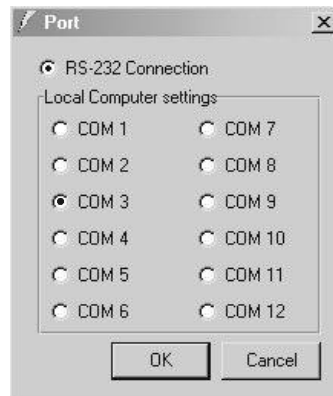

Figure 15: The Port Window – Selecting a Virtual Serial Port
4. In the control application, choose the COM-port connection according to your virtual serial port connections (see Figure 15).